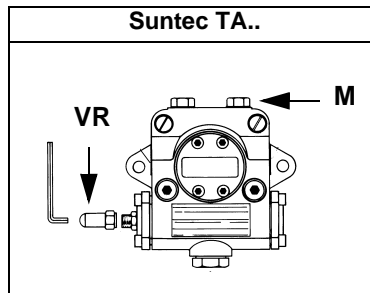

Fig. 15
- 5 the nozzle supply pressure is already factory-set and must not be changed. Only if necessary, adjust the supply pressure as follows (see related paragraph); insert a pressure gauge into the port shown on Fig. 15 and act on the pump adjusting screw **VR** (see Fig. 14) as to get the nozzle pressure at 25bar.